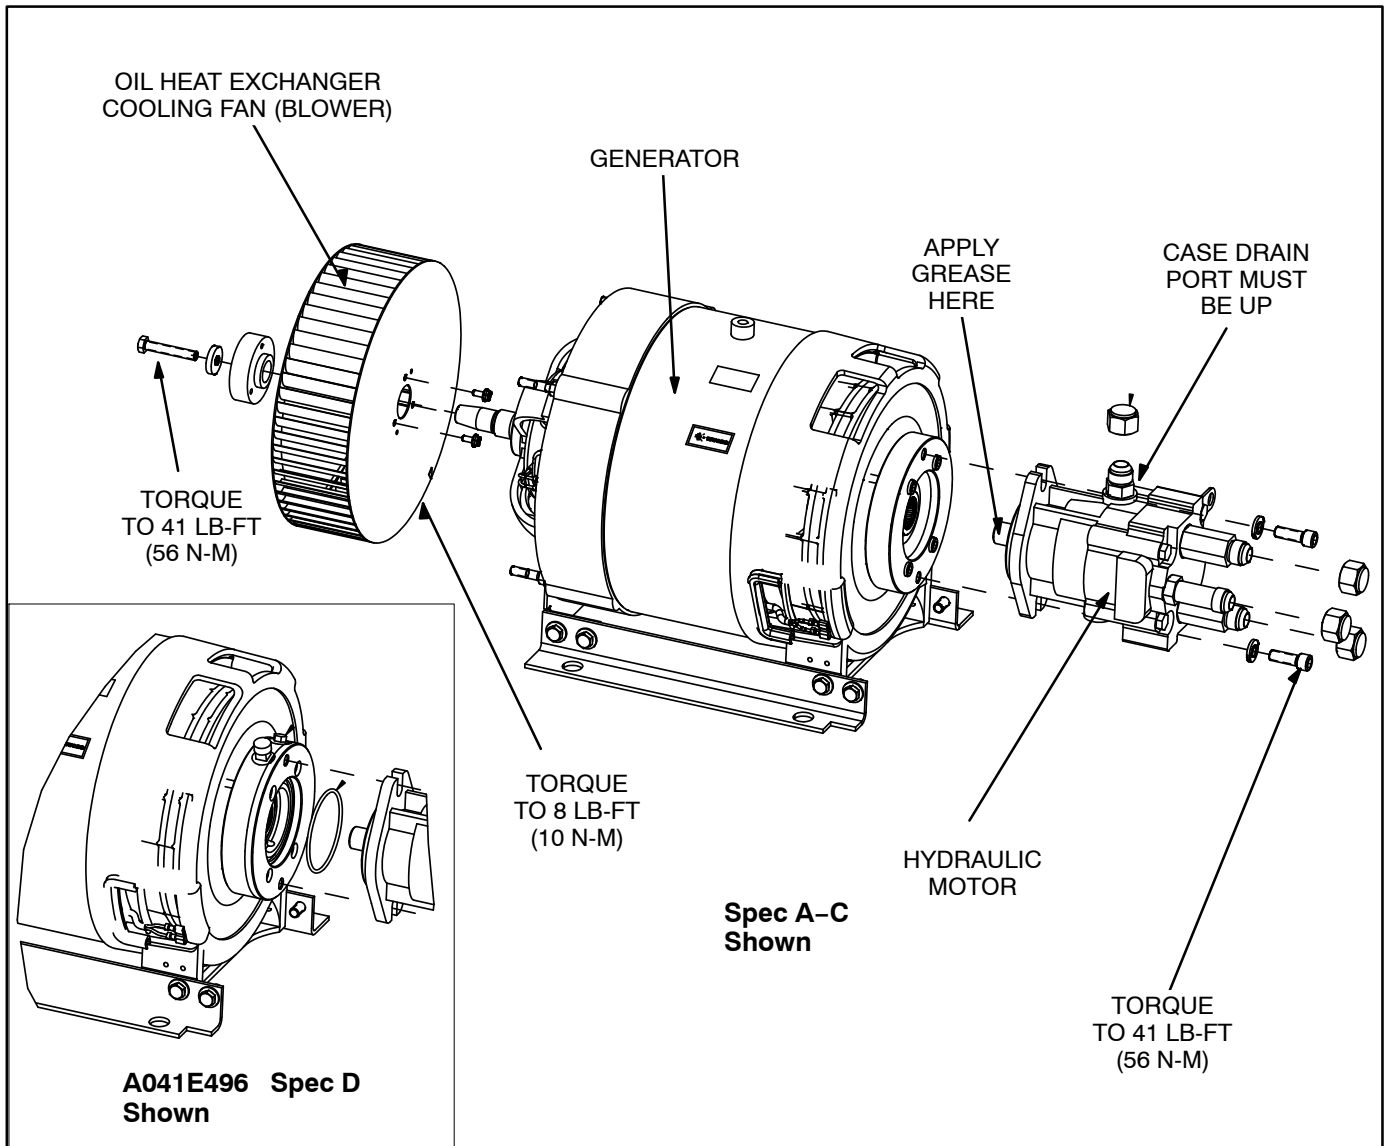

FIGURE 7. HYDRAULIC MOTOR
The generator, hydraulic motor and cooling fan should be removed as an assembly from the generator set (Figure 7).
2. Remove the fan and hydraulic motor (Figure 7). Use three M6 screws and a puller to remove the fan hub from the rotor shaft.